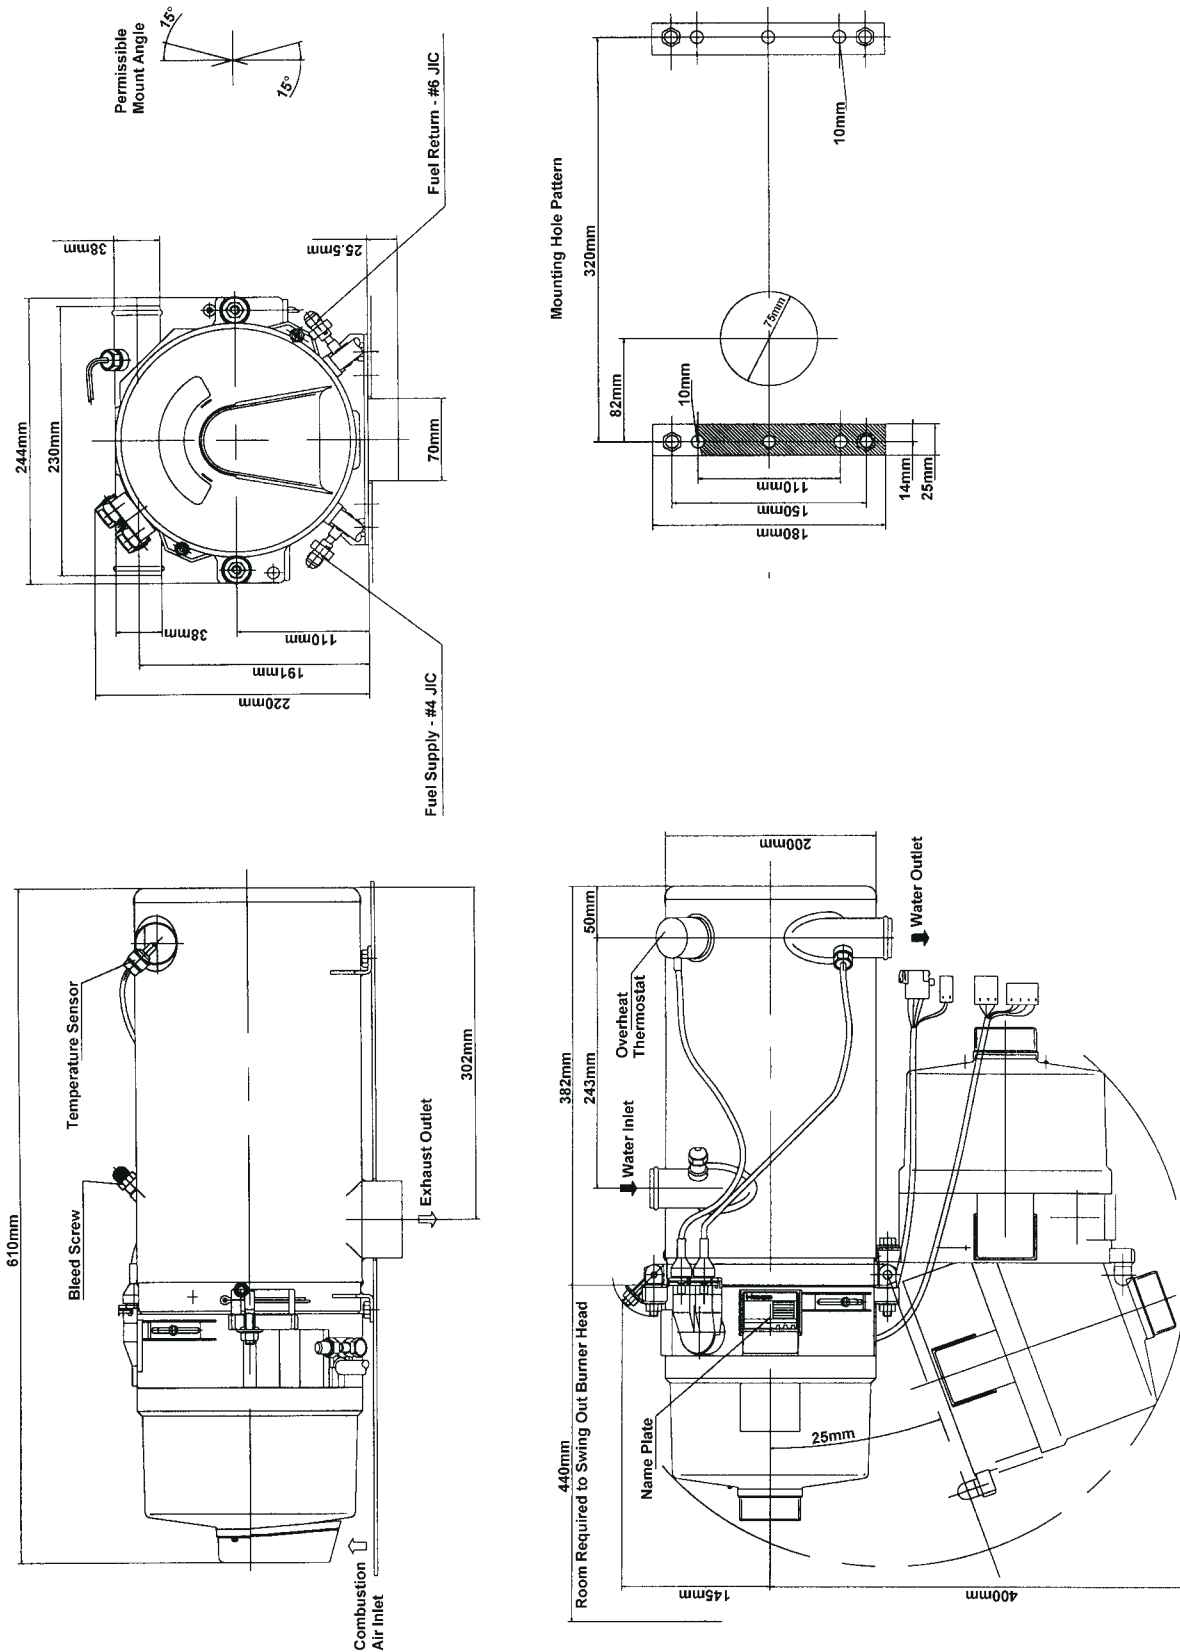

Fig. 301: Thermo 230/300 Heater Dimensions
The heater is to be installed in a clean and dry environment, usually a separate compartment, accessible for service, typically towards the rear of the vehicle. The heater may also be located in the engine compartment. The installation enclosure must provide adequate ventilation for combustion air requirements [4 in2 (20 cm2)]. When installing the heater, make certain that the clearances required for accessing the unit for servicing are observed (e.g. removal of the combustion chamber). See figure 301, page 302.
1. Drill all required holes to dimensions shown in figure 301, page 302.